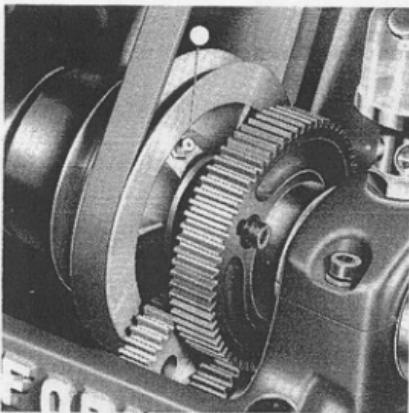

Fig. 29. Showing the oil nipple for headstock pulley bearing lubrication
**IMPORTANT: WHENEVER THE HEADSTOCK REDUCTION GEAR IS USED, ENSURE THAT THE HEADSTOCK PULLEY BEARING IS WELL LUBRICATED VIA THE OIL NIPPLE AT THE LARGE END OF THE PULLEY.** Fig. 29.